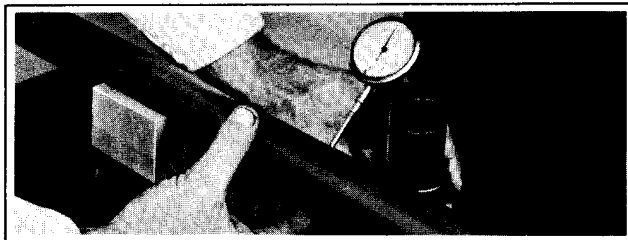
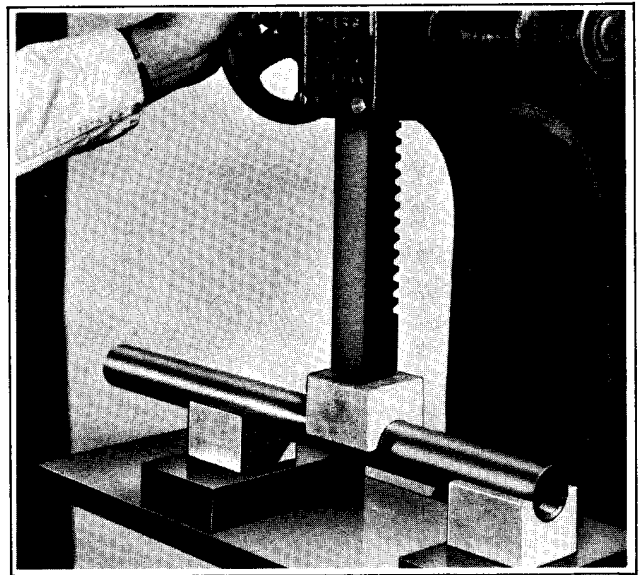

Figure 2-26. Indicating High Point
Figure 2-27. Pressing High Point
2. Find the highest point out of round with a dial indicator (Figure 2-26) and mark with chalk. Press high point as shown in Figure 2-27. Repeat indicating and pressing operations until tube is within .003 in. to .004 in. of being straight.